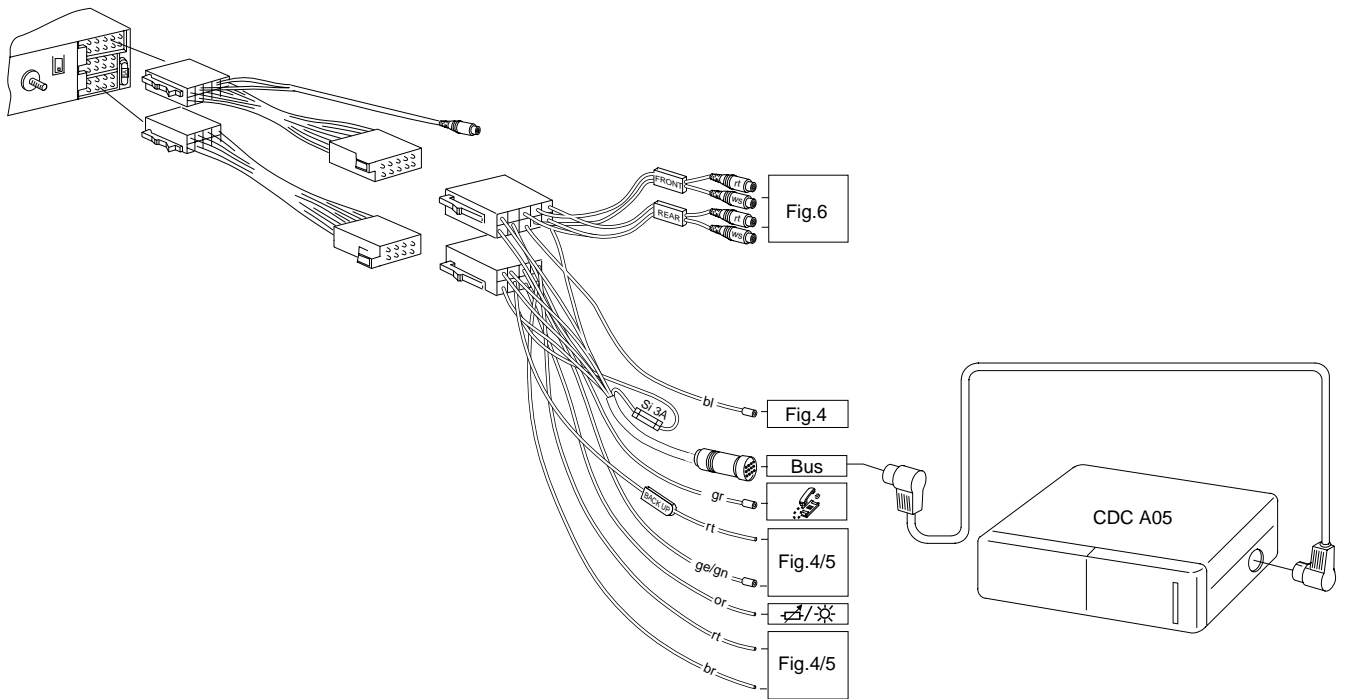

Fig. 8
- Anschluß CD-Player ..... Fig. 8/9
CD player connection .....	Fig. 8/9